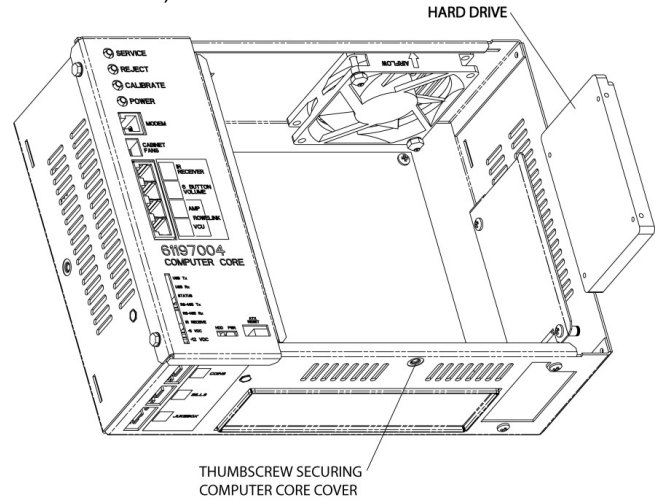

Figure 4-D – Computer Core
2. Loosen the thumbscrew securing the cover on the Computer Core and slide it off (see *Figure 4-D*).